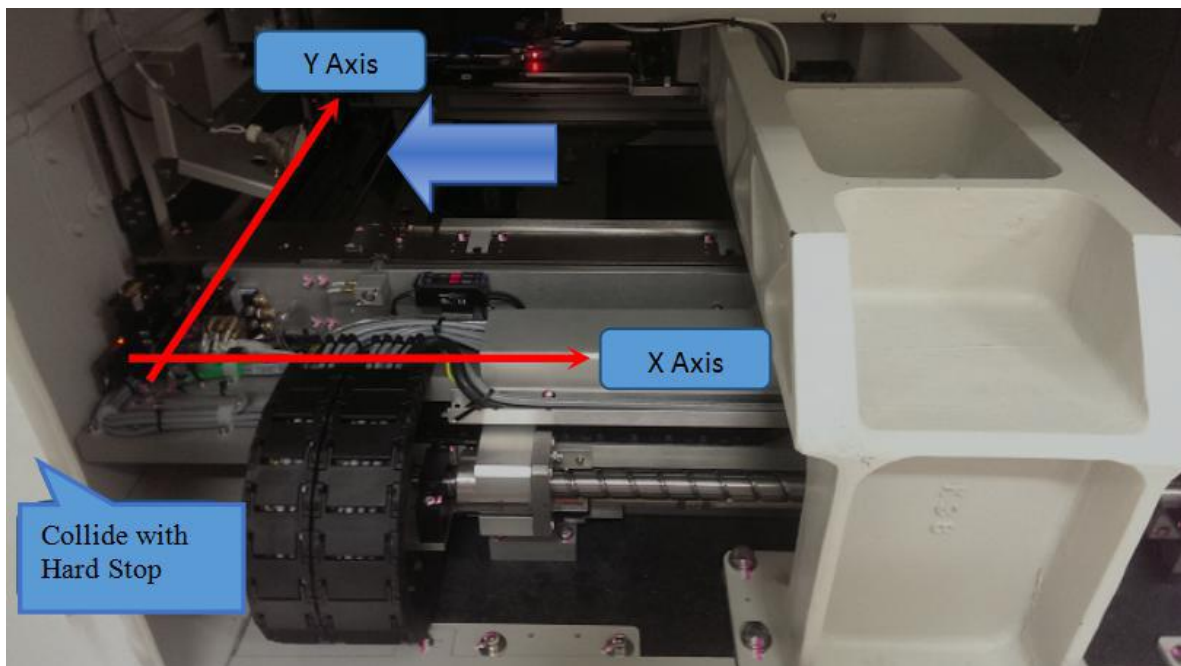

Figure 6 Minimum hard stop (V810 Std)
7. Push the stage towards the minimum hard stop (left outer barrier) as shown in Figure 6.